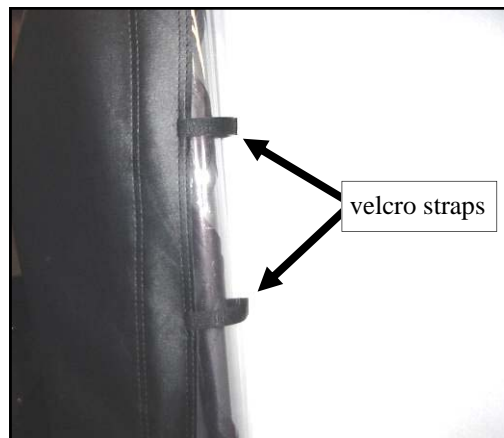

Fig. 11.3 (view from passenger's side)
11.3 Per fig. 11.3, the clear vinyl windows in the door skins can be rolled open (towards the rear) and stored that way for ventilation by utilizing the factory installed mated velcro strips as shown in the photo.